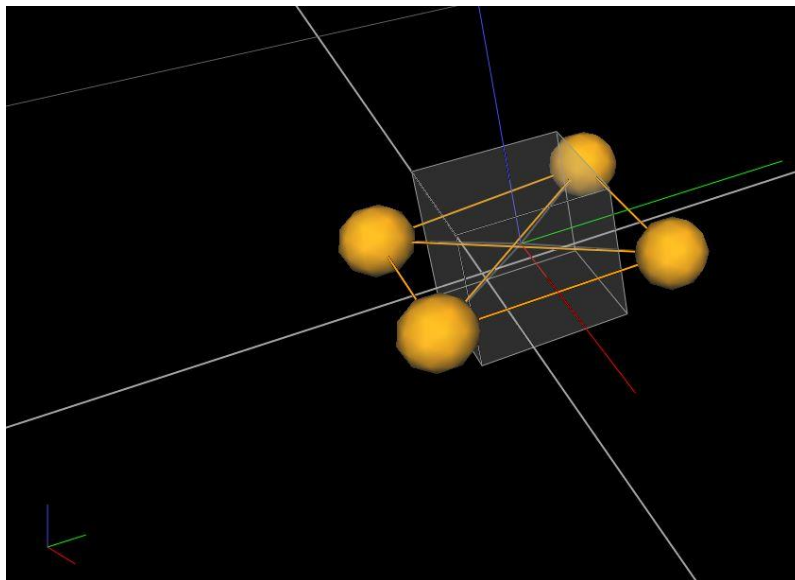

Figure 4: Vicon CF object
- f. When the object is created, it should look like Figure 4. Note that the axes of the object and the Vicon (bottom left corner) line up.